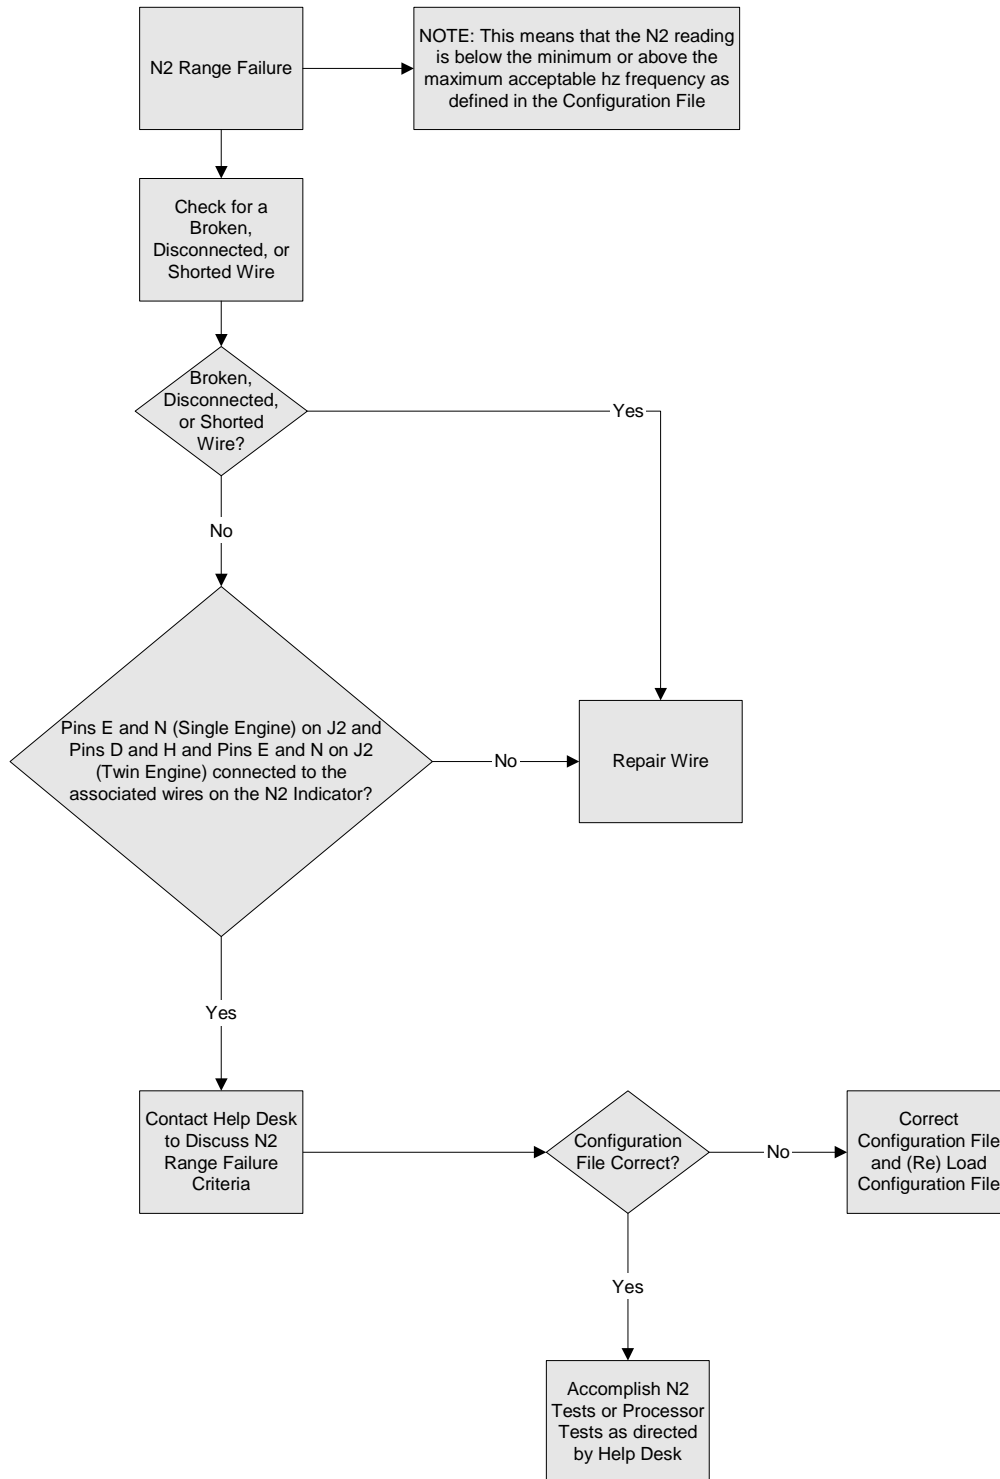

Figure 35: N2 (Np) Range Failure Troubleshooting
- b. Range Failure – Refer to Figure 35